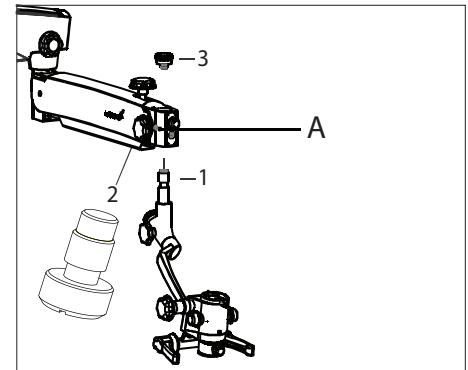

Fig.44
4 Retrieve the inclined coupling assembly(Z AXIS or Simple as ordered) from the packing and follow as below refering Fig.44.
- Install the coupling to the suspension arm by sliding the guiding shaft (1) into the suspension arm.
- Lock the inclined coupling with the threaded plug (3).
Make sure that safety screw must tight in place at position (2) to avoid sudden falling of the coupling. Safety screw tagged within the arm. Safety screw always tied with the suspension arm locking knob A as per fig.44.